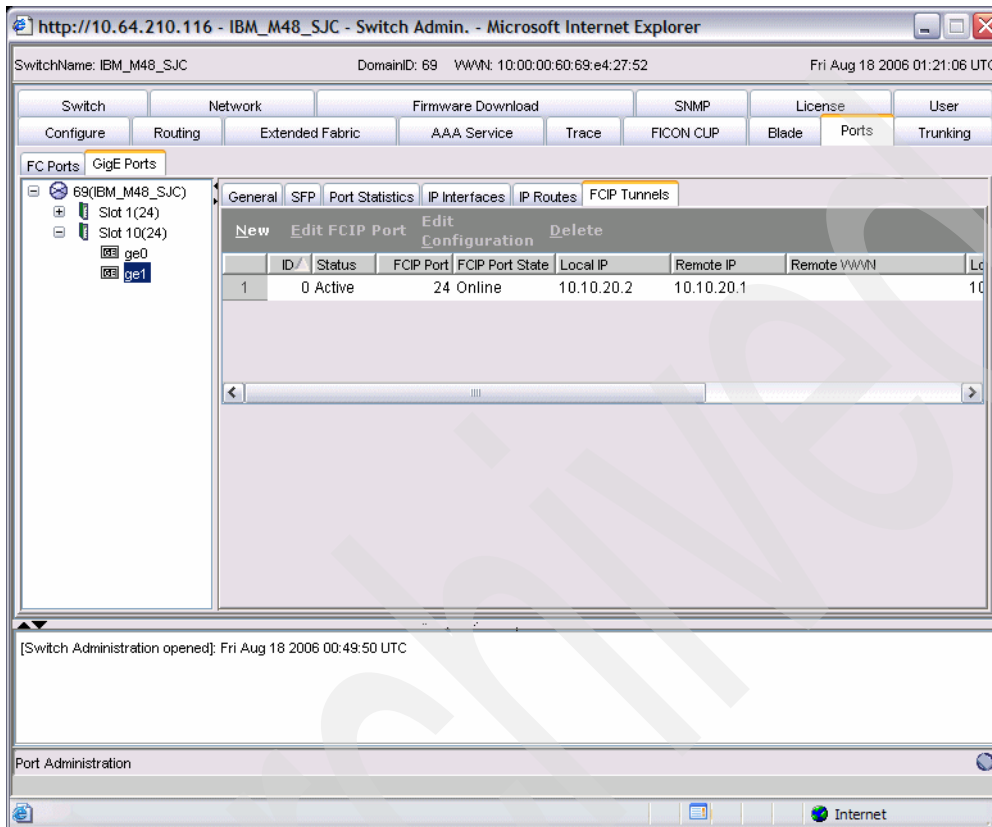

Figure 6-94 FCIP tunnel is active
3. Enable the virtual FC ports (port 24 in our case) and GigE ports (ge1 in our case) now. If the configuration settings are correct, the FCIP tunnel becomes active (Figure 6-94).